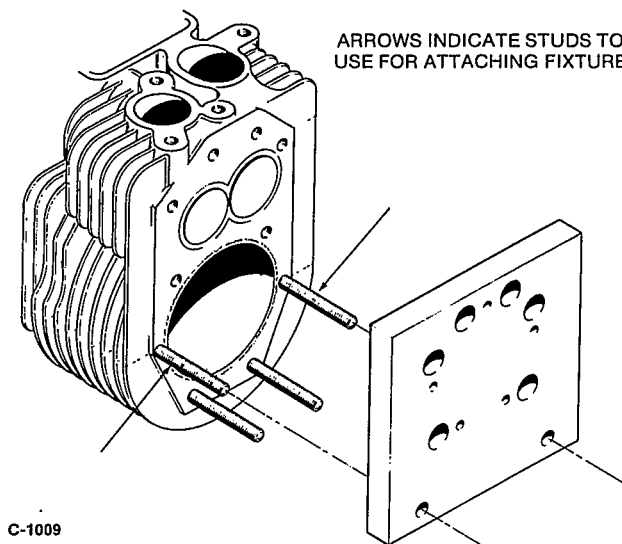

FIGURE 78. REPAIR FIXTURE
6. Fit the special repair fixture (Onan Tool #420-0398) to the surface of the block. Use the studs shown in Figure 78 and two cylinder head nuts to secure fixture to head of block.